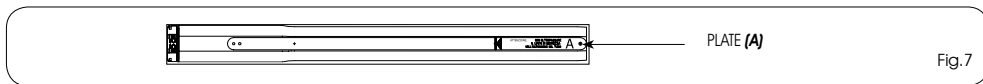

Fig. 7
3) WHEN THE ELECTRO-ROLLER IS BEING ASSEMBLED, THE PLATES (Fig.7 ref.A), INSTALLED ABOVE THE MOTOR AND CAP SLEEVE (Fig.1 ref. 1 - 2) MUST SLIDE OUTSIDE THE FIXED ROLLER.